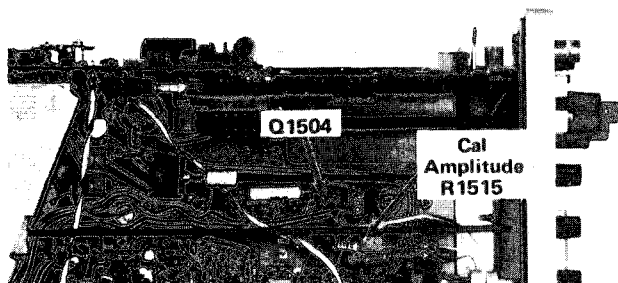

Fig. 5-32. Location of 01504 and Calibrator amplitude adjustment.
b. Short the emitter and base of Q1504 together (see Fig. 5-32).
d. ADJUST-Calibrator Amplitude adjustment, R1515 (see Fig. 5-32) for +0.3 volt, within 1% from 0°C to +40°C; for +0.3 volt, within 1.5% from -15°C to +55°C.